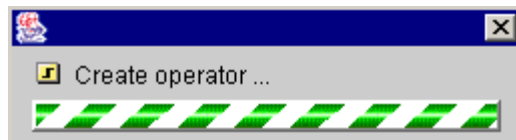

Figure 117 : Bar graph during the operator creation
- ♦ Click on command **Create new model**; the following bar graph is displayed (Figure 117) :